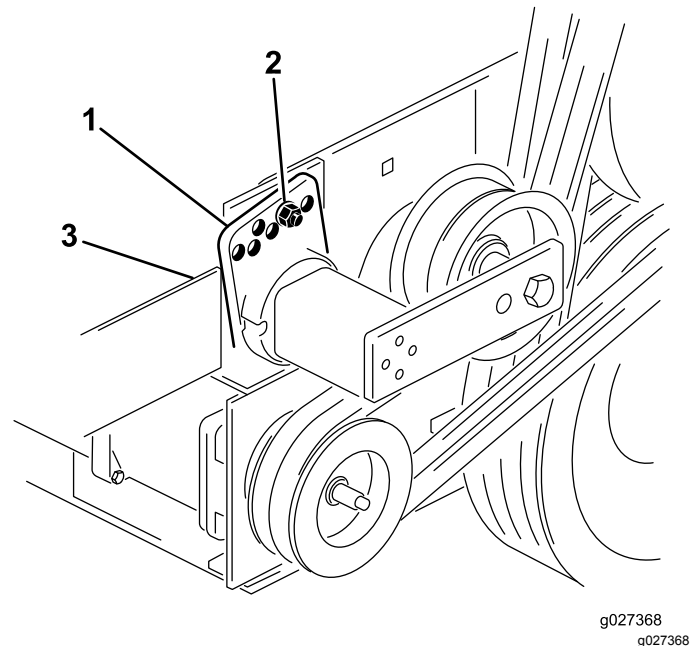

Figure 13
- Remove the bolt and nut securing the tensioner guide to the drive mount to release the belt tension (Figure 13).